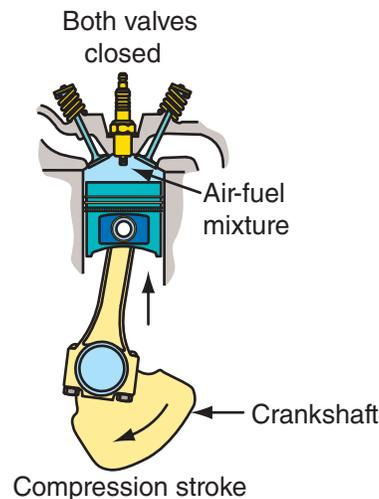

FIGURE 1.7 The air-fuel mixture is compressed as the piston moves up in the cylinder.
- Compression Stroke.** The piston moves up in the cylinder, compressing the air-fuel mixture (**FIGURE 1.7**). If you light a puddle of gasoline on fire in open air, it does not produce power. If it is confined in a cylinder, however, usable power can be produced. Compressing the mixture of air and fuel into a smaller area makes it easier to burn. The compression stroke begins at BDC after the intake stroke is completed. As the piston